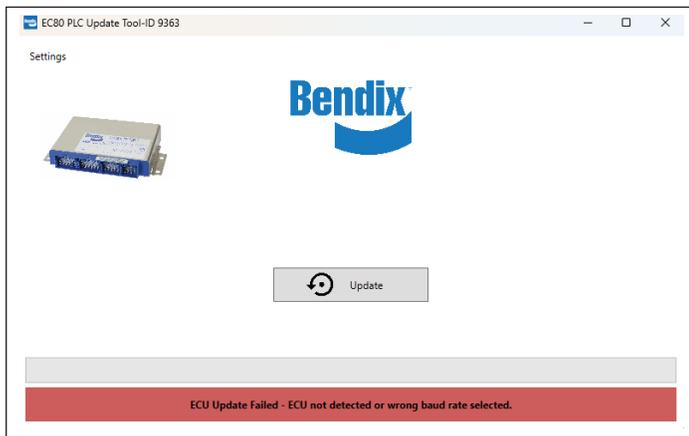

Figure 8 – Incorrect Baud Rate or ECU Not Present
- If the incorrect baud rate was selected or the ECU is physically not present on the J1939 bus, the screen in *Figure 8* may appear. Perform the following troubleshooting steps.